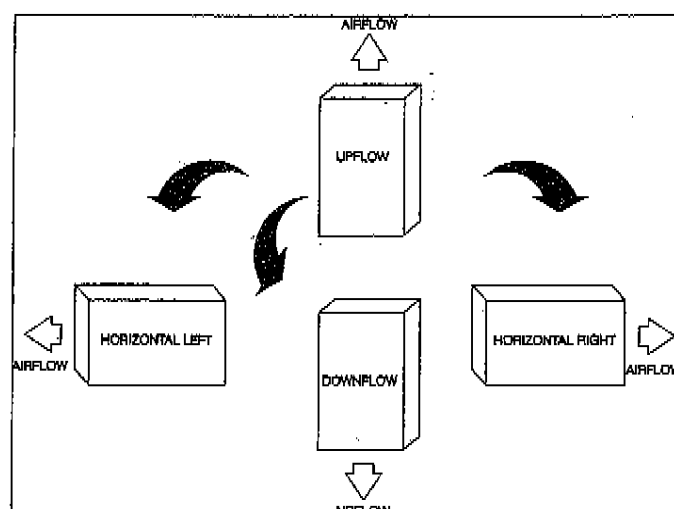
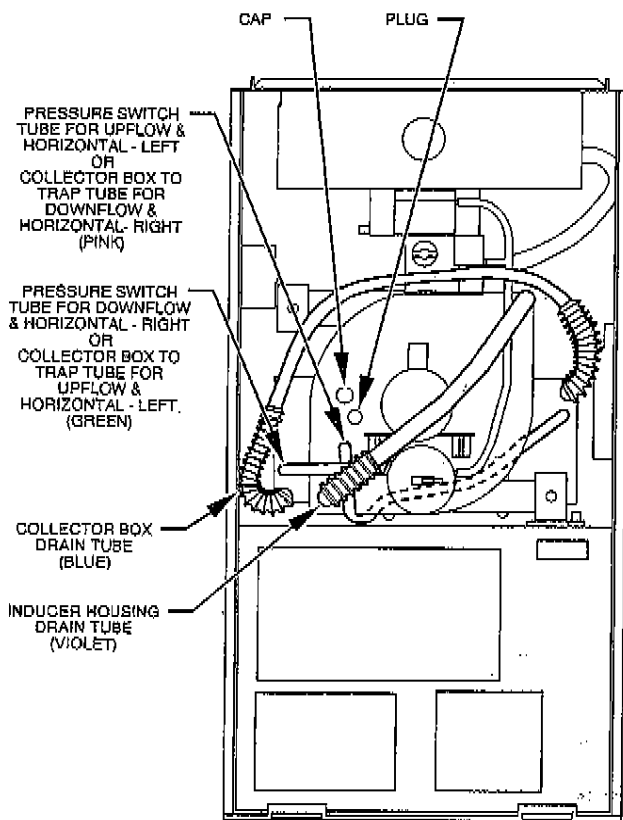
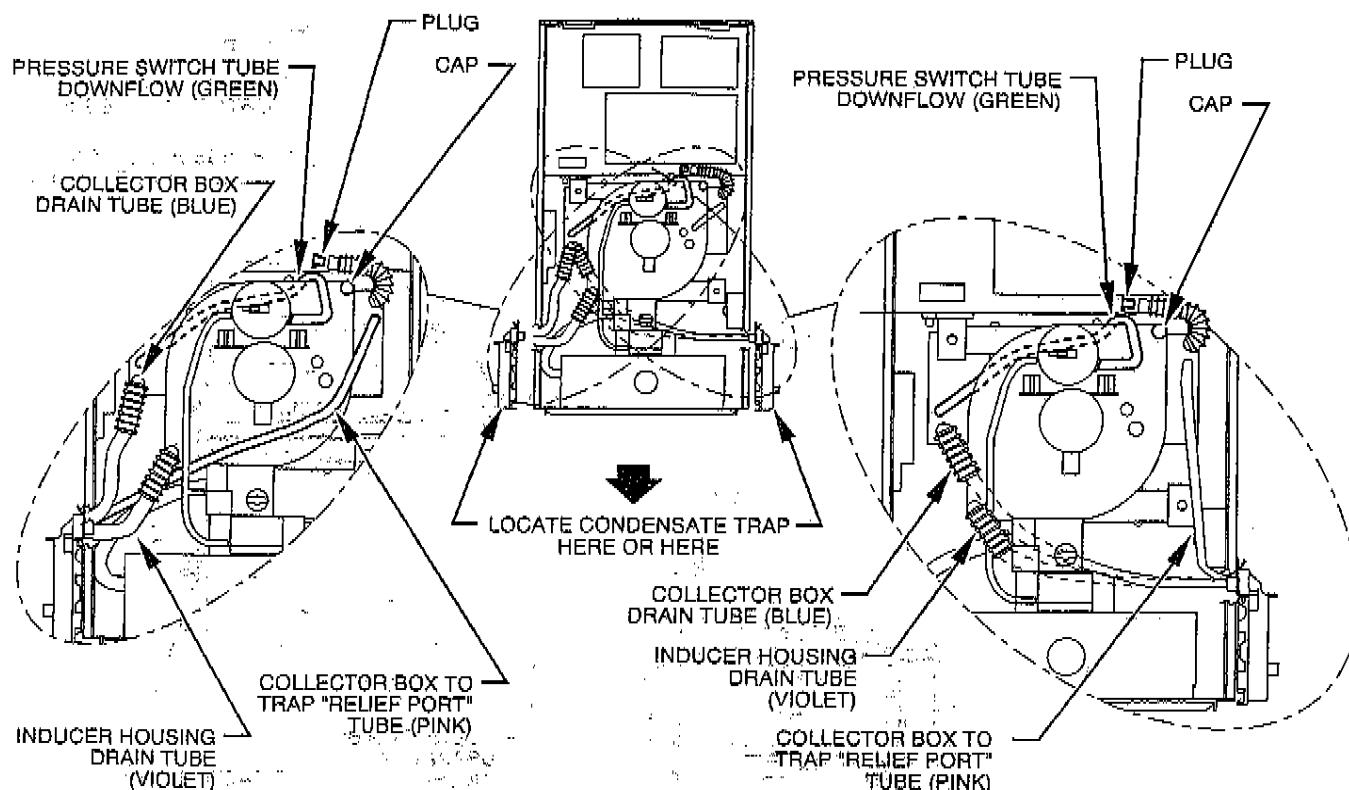

Fig. 1—Multipoise Orientations
**Fig. 4—Factory Shipped Tube Arrangement**
**Fig. 7—Downflow Tube Configuration**
These furnaces are shipped in the UPFLOW orientation and can be used in UPFLOW, DOWNFLOW, HORIZONTAL RIGHT, or HORIZONTAL LEFT (supply airflow direction) applications with minor modifications as shown in Fig. 1. See details under Section 1—Applications.
These furnaces are shipped in the UPFLOW position. Some assembly and modifications are required for furnaces installed in any of the 4 applications shown in Fig. 1. All drain and pressure tubes are connected as shown in Fig. 4. Some assembly and modifications are required. See appropriate application instructions for these procedures.
- Remove collector box tube plug from inducer housing. (See Fig. 4 for factory shipped location.) Insert plug in open end of tube and gently push center of plug into tube until tube is flush with shoulder on plug.
- Remove cap and clamp from inducer housing. See Fig. 4 for factory shipped location. Install on UPPER inducer housing drain connection to prevent leakage.
The collector box to condensate trap relief port tube (green) is shipped from the factory attached to the inducer housing post as shown in Fig. 4. This tube **MUST** be relocated to the condensate trap.
**NOTE:** When condensate trap is installed on right-hand side, the collector box drain tube **MUST** be routed behind the inducer housing and gas valve as shown in Fig. 7.
- Remove cap and clamp from inducer housing (See Fig. 4 for factory shipped location) and install on UPPER inducer housing drain connection to prevent leakage.
**NOTE:** When condensate trap is located on right-hand side, route collector box and inducer housing drain tubes behind gas valve. (See Fig. 7.)
The collector box to condensate trap relief port tube (pink) is shipped from the factory attached to the pressure switch as shown in Fig. 4. This tube **MUST** be relocated to the condensate trap.
The pressure switch tubing (green) is shipped from the factory assembled as shown in Fig. 4 and **REQUIRES** modifications. See Fig. 7 for proper location of pressure switch tubing connections.
- Connect tube to pressure switch and clamp to prevent leakage. (See Fig. 7.)
- Remove collector box tube plug from inducer housing. See Fig. 4 for factory shipped location. Insert plug in open end of tube and gently push center of plug into tube until tube is flush with shoulder on plug.